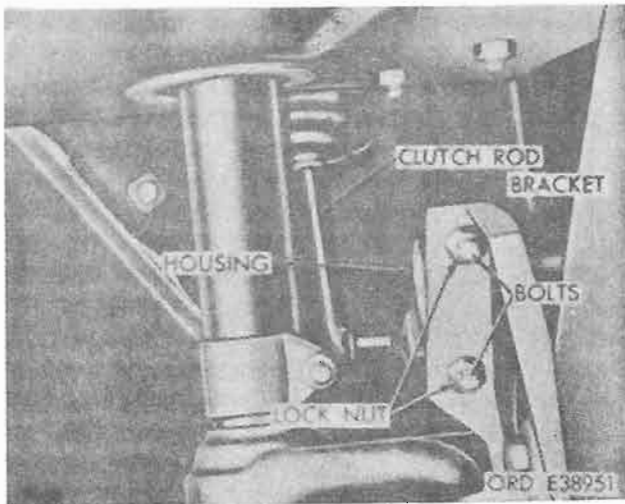

Figure 4-22. Disengage clutch rod.
(14) Remove cotter pin and flat washer and disengage clutch (fig. 4-22). Remove two bolts and locknuts securing clutch release lever housing to housing bracket.